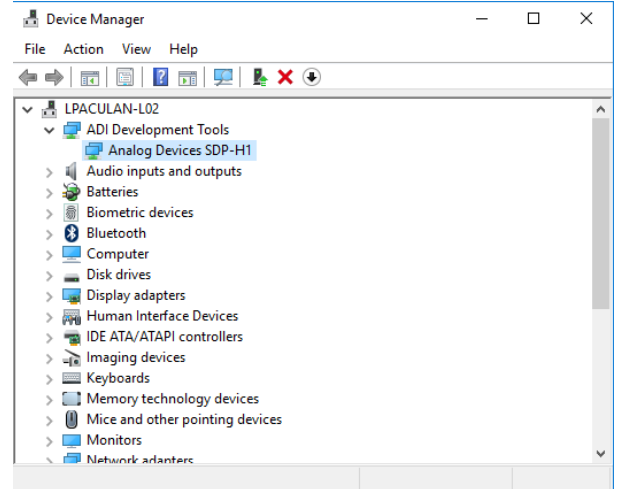

Figure 19. Windows Device Manager
6. If the **SDP-H1** driver software is installed and the board is connected to the PC properly, **Analog Devices SDP-H1** appears under **ADI Development Tools** in the **Device Manager** window, as shown in Figure 19.